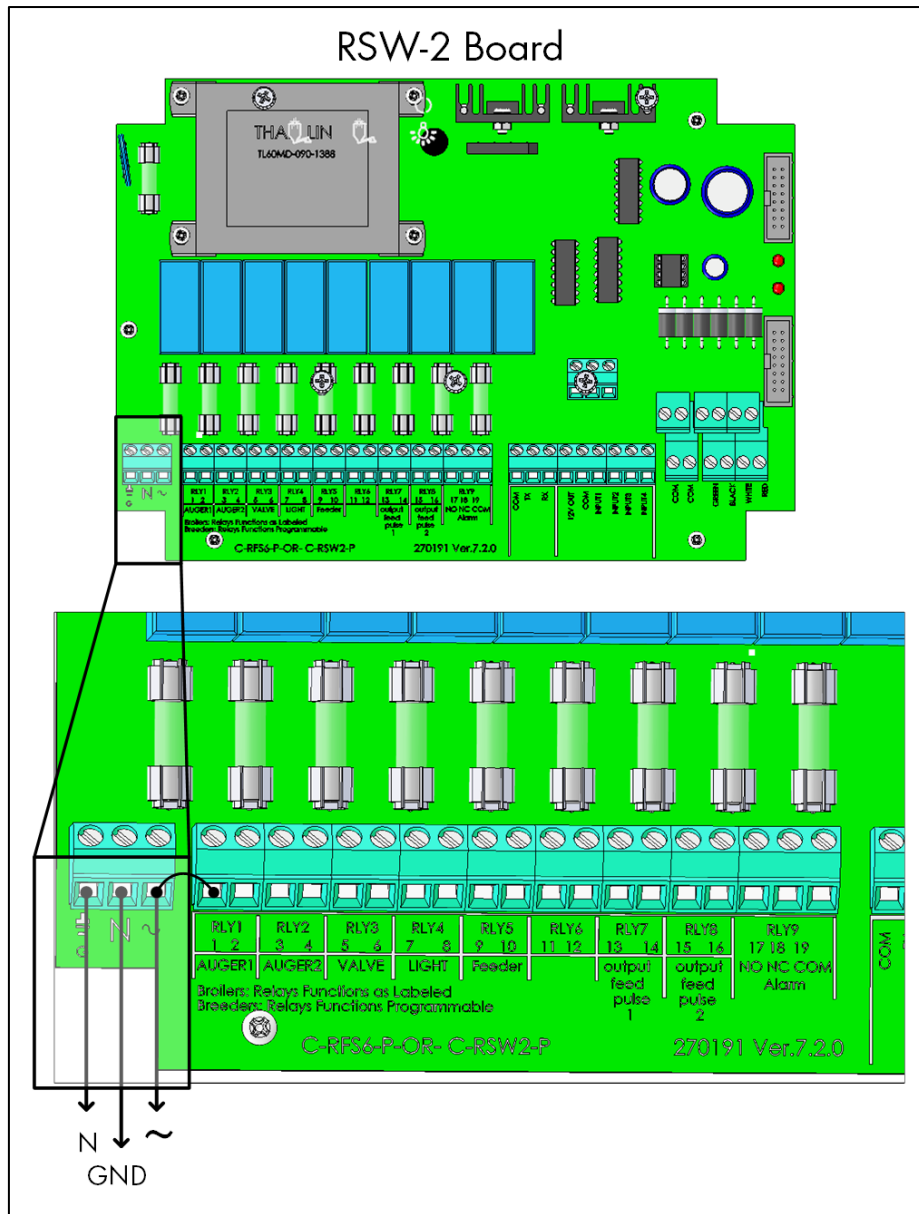

Figure 8: Internal Power Supply Wiring Diagram
- The RSW-2 can power up to six (6) RSLC units internally (Figure 8).